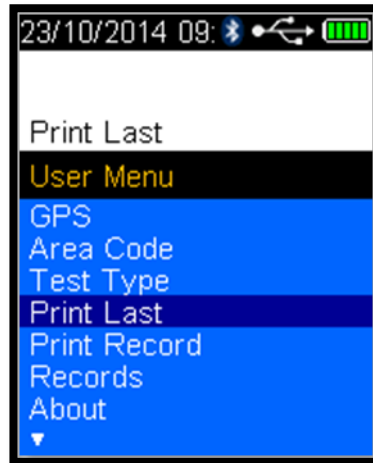

Figure 96 Print Last Displayed
- Press the down button and scroll to Print Last (Refer Figure 96).